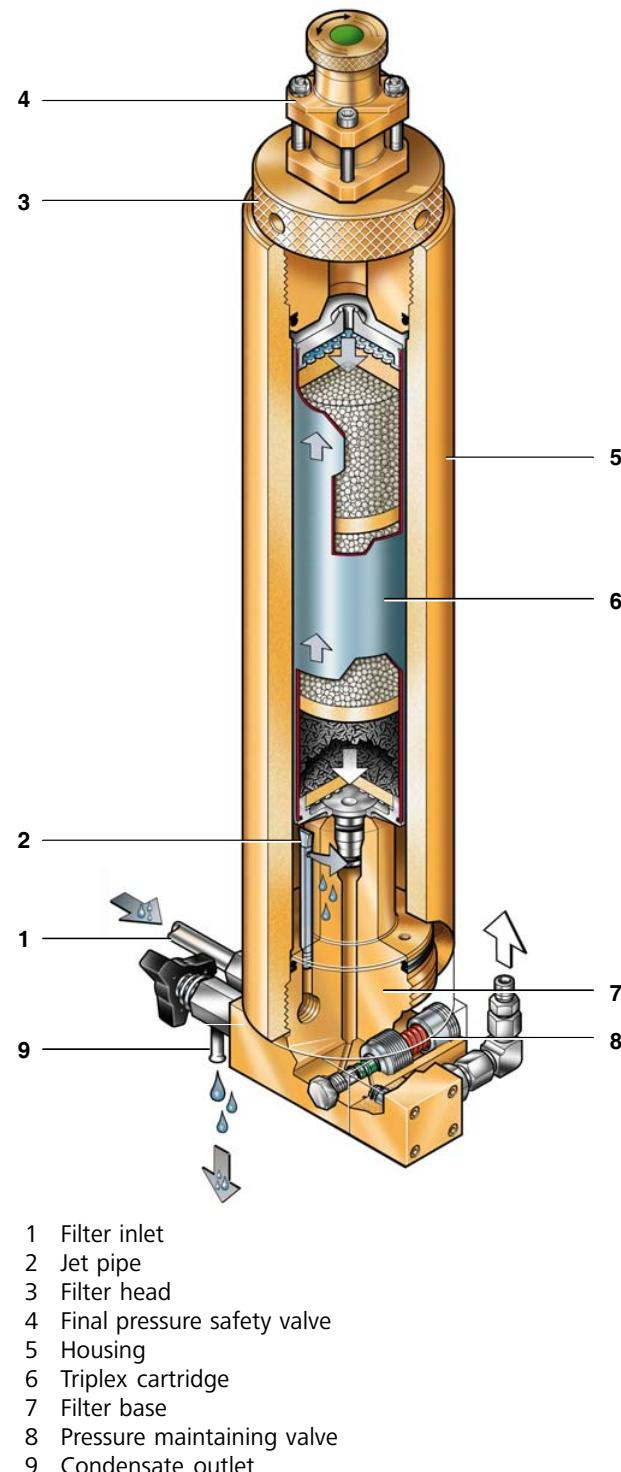

Abb. 43 Filter system P31
The air leaving the final stage is cooled in the after-cooler to approx. 10 - 15 °C (18 - 27 °F) above ambient temperature and then enters filter system **P31** with **TRIPLEX** longlife cartridge (Abb. 43).
- Remove filter head (3, Abb. 43).